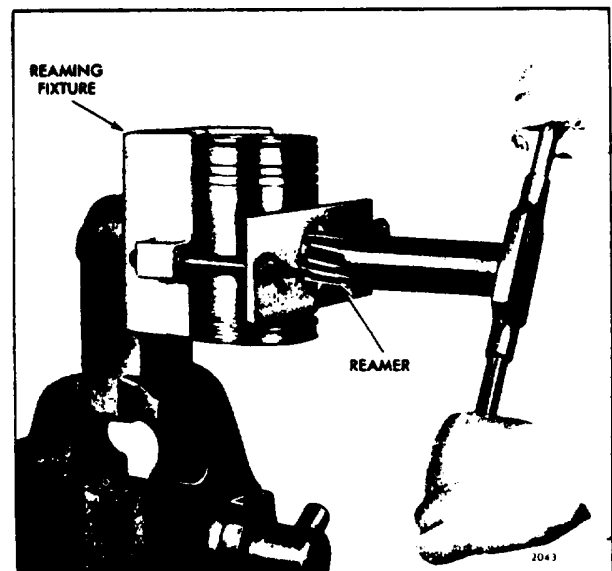

Fig. 7. - Reaming Piston Pin Bushings
1. Clamp the reaming fixture J 5273 in a vise (Fig. 7), then insert the guide bushing J 4970-5 in the fixture and secure it with the set screw.